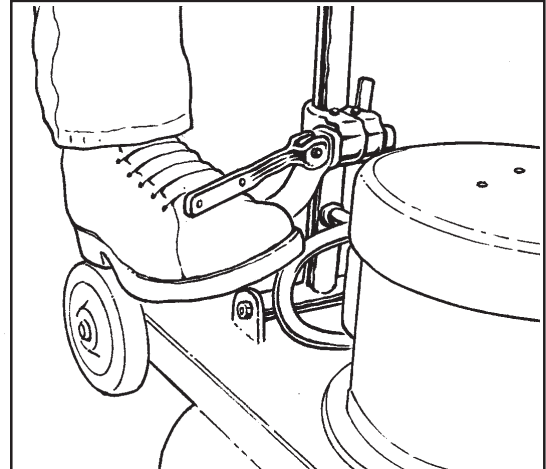

Figure 1
2. To lock the handle, push the locking lever down. See figure 1.
1. The locking lever is on the lower part of the handle tube. Use your foot to lift the lever. See figure 1.